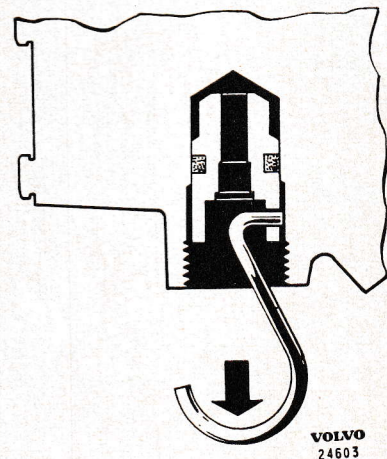

Fig. 11. Removing the valve seating, reducing valve
2. Remove the plug and take out the spring (11) and valve (12). Pull out the valve seating (10) with the help of a small hook, see Fig. 11.